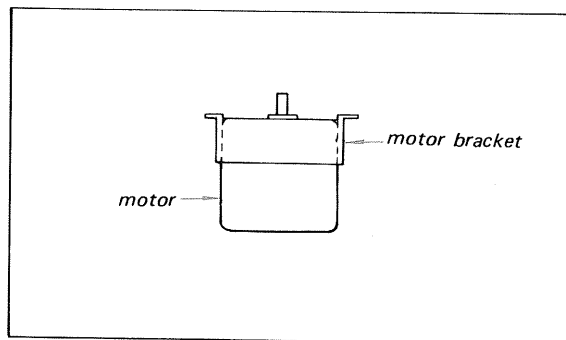

Fig. 2-16. Motor installation
5. Remove the defective motor and then install the new one. Note that the top of the motor should coincide with the edge of the motor bracket when installing the replacement motor as shown in Fig. 2-16.